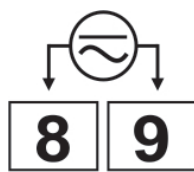

Figure 12 – 100-240 Vac/dc Model
- **RTD (Pt100):** Figure 12 shows the connection mode for the 3-wire Pt100. You should use conductors of the same gauge and length to compensate for cable length. For 4-wire Pt100, you must leave one conductor disconnected at the controller. For 2-wire Pt100, use short-circuited terminals 1 and 2.